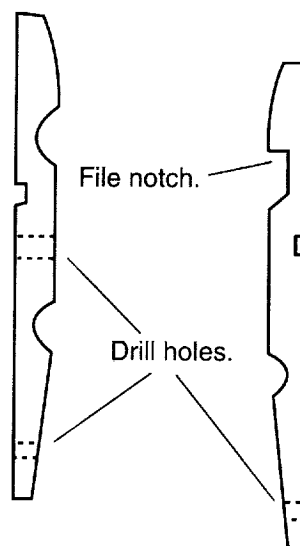

Figure 2
3. Disassemble the clothespin, and file the "jaw" of one wood piece square as shown in Figure 2. Drill a hole in this piece and two holes in the other piece as shown in the figure.